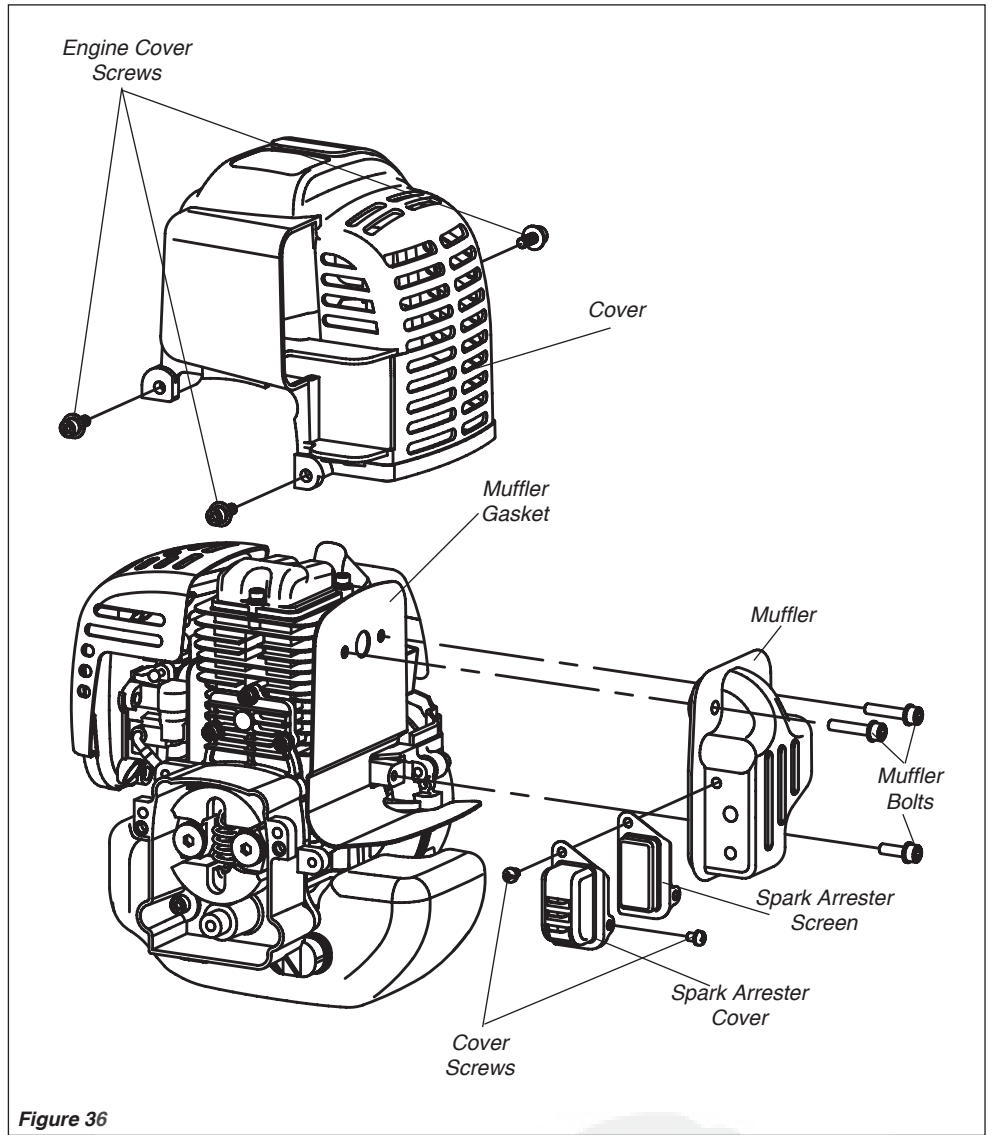

Figure 36
1. With a 4 mm hex wrench remove the 3 engine cover screws and the engine cover. See Figure 36.
2. With a 4 mm hex wrench remove the 3 muffler bolts and the muffler. See Figure 36.
3. With a small flat bladed screwdriver remove the 2 screws holding the spark arrester screen and cover to the muffler. See Figure 36.